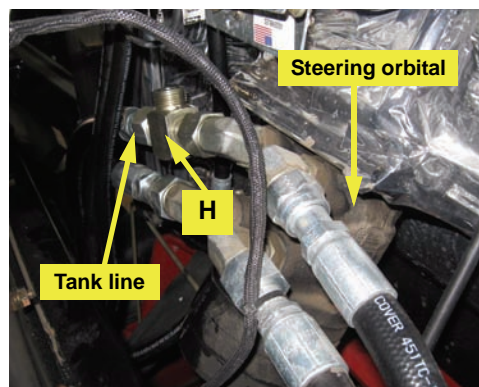

Figure 3c: Tank line run-tee installed, tank line reconnected
- c. Disconnect the tank line from the fitting in the top right port of the steering orbital and install run-tee **H**. Reconnect the tank line to the open 'T' end of **H** (Figure 3c).